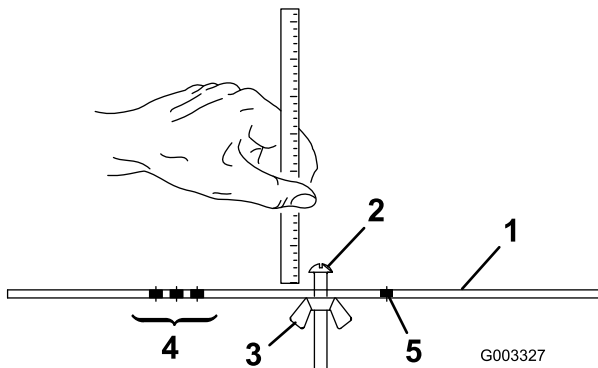

Figure 16
2. Loosen the nut on the gauge bar (Figure 16) and set the adjusting screw to the desired height-of-cut.